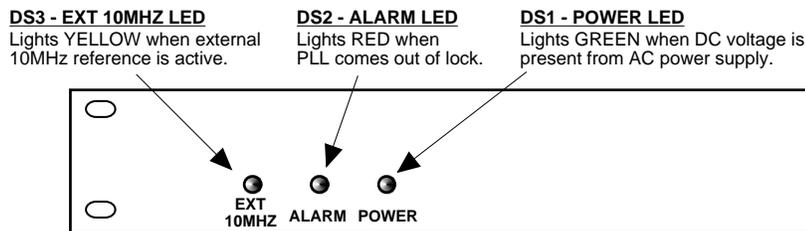

FIGURE 2.2 2116-23#-1100 Front Panel Controls and Indicators
- 4.) Be sure DS1 (green, DC Power) is on and DS2 (red, Alarm) is off (Figure 2.2).
- 6.) If EXT is selected or AUTO is selected and there is a 10MHz, 0 dBm signal at J2, check that DS3 (yellow, EXT 10MHZ) is on (Figure 2.2).